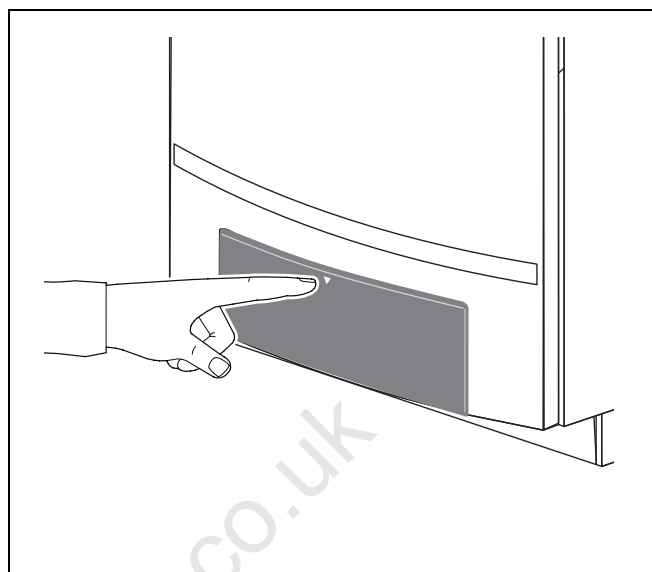

fig. 2 Opening the control panel
The boiler is fitted with a control unit, the BC10 basic controller (fig. 2). This controller can be used to control the heating system.
- Push on the control panel to open it (fig. 2).